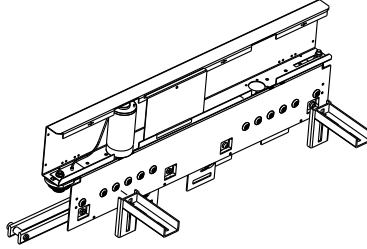

FIG. 2
1. Attach the brackets to the operator as shown in Figure 2.